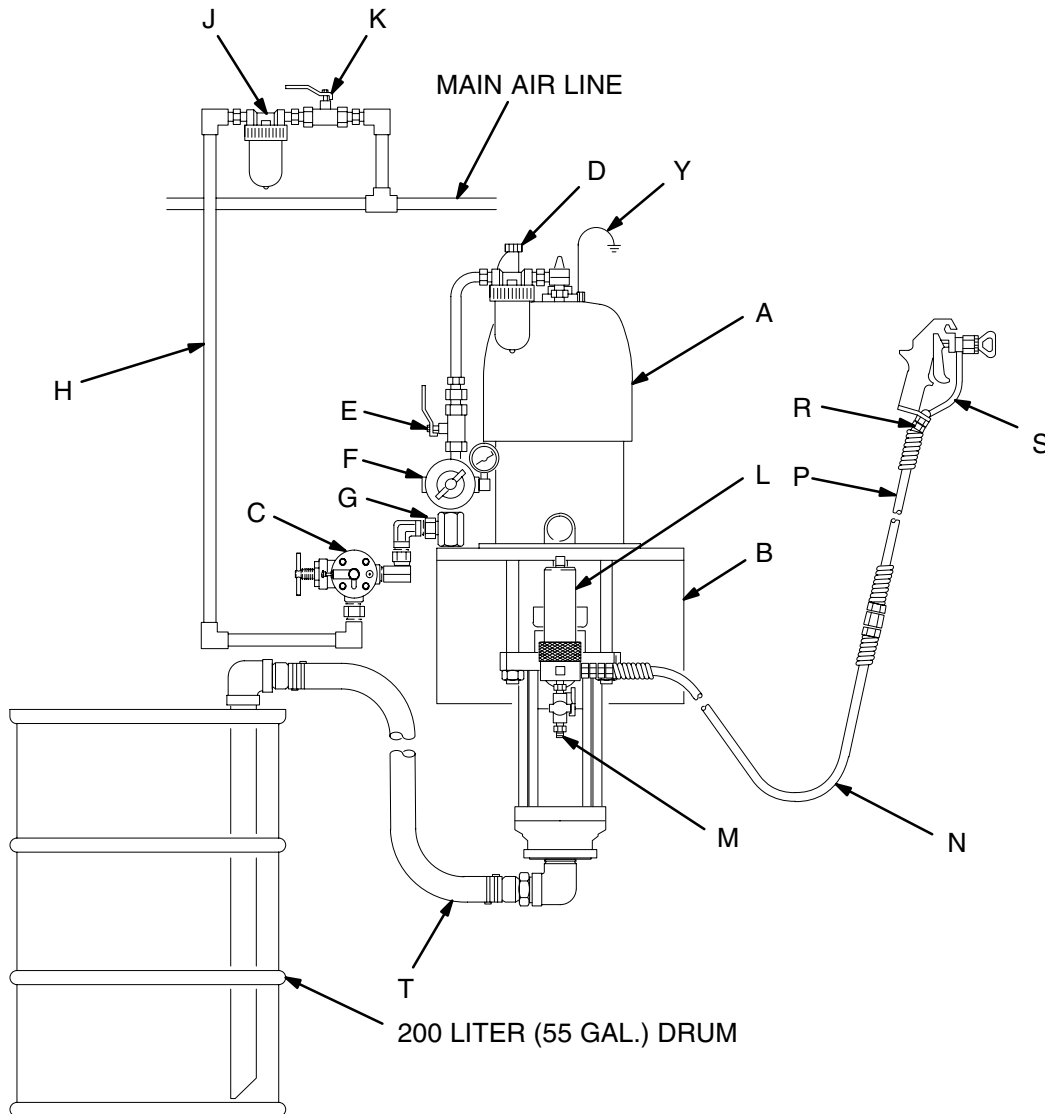

Fig. 3
Fig. 3 is only a guide for selecting and installing system components and accessories. Contact your Graco distributor for assistance in designing a system to suit your particular needs.
Mount the pump (A) to suit the type of installation planned. Fig. 3 illustrates a wall-mounted system. Pump dimensions and the mounting hole layout are shown on pages 38 and 39.
Install the following accessories in the order shown in Fig. 3, using adapters as necessary:
Install the following accessories in the positions shown in Fig. 3, using adapters as necessary:
- **A fluid filter (L)** with a 60 mesh (250 micron) stainless steel element, to filter particles from the fluid as it leaves the pump. It includes a **fluid drain valve (M)**, which is required in your system to relieve fluid pressure in the hose and gun (see the **WARNING** at left).
- **A gun or valve (S)** dispenses the fluid. The gun shown in Fig. 3 is an airless spray gun for light to medium viscosity fluids.
- **A gun swivel (R)** allows freer gun movement.
- **A suction kit (T)** allows the pump to draw fluid from a 200 liter (55 gallon) drum.